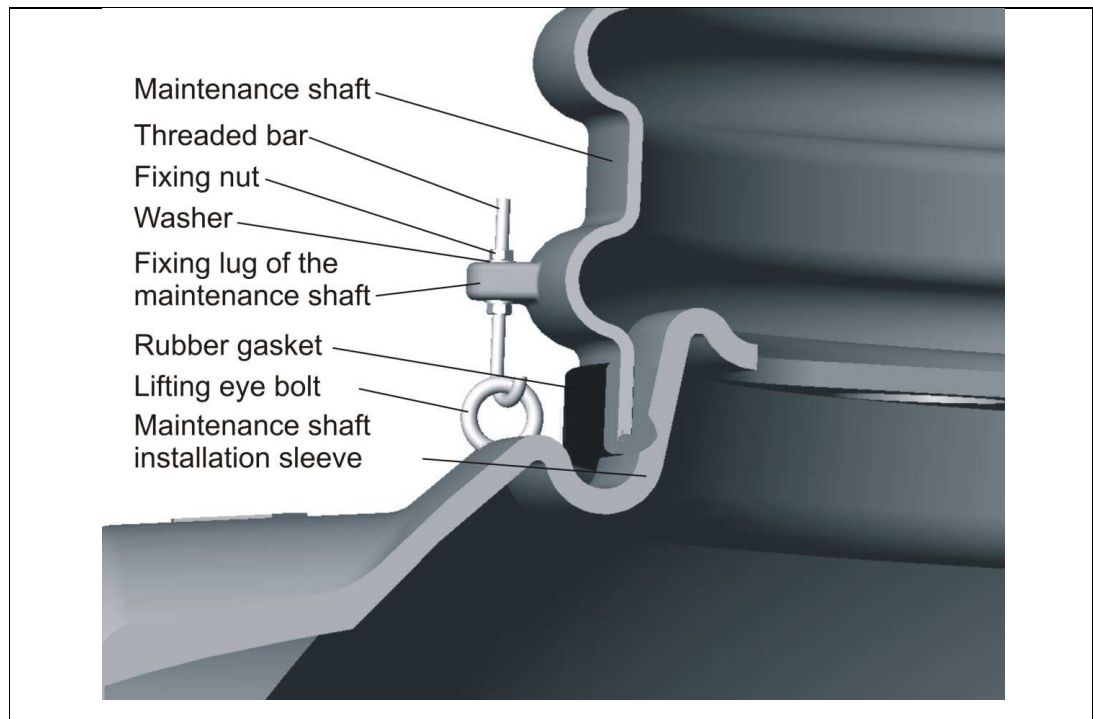

Figure 7. Installing of EuroHUK maintenance shaft to PE-tank.
1. Remove the storage cover from the maintenance shaft installation sleeve. Place the rubber gasket to maintenance shaft's lower edge (Figure 7). Install the maintenance shaft vertically to installation sleeve. Lock the retaining latches.